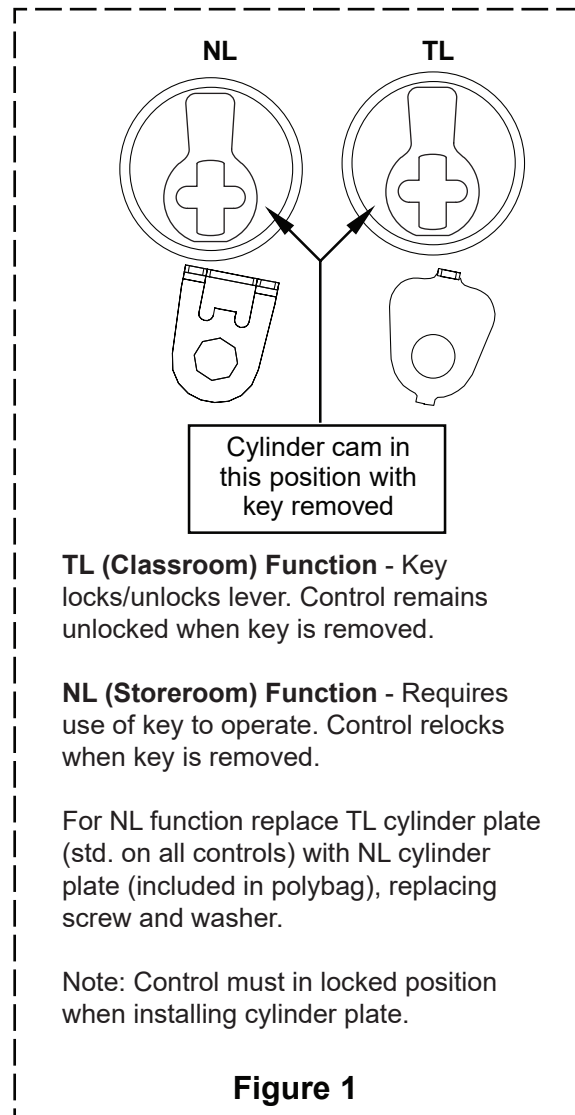

Figure 1
- ① **Note: See back side of sheet for hole preparation for metal or wood.**
3. Install cylinder into lever control if required (Figures 1 & 2). Ensure cylinder cam is set for required function and replace if necessary.